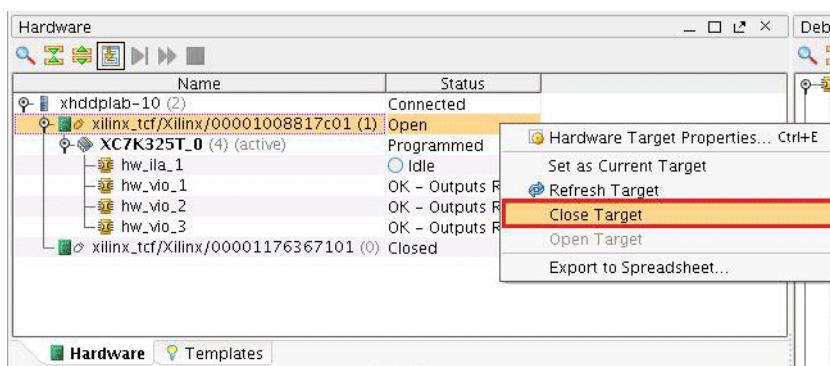

Figure 22: Close Target
8. When programming completes, right-click the programmed target device in the Hardware list and select **Close Target** (Figure 22).